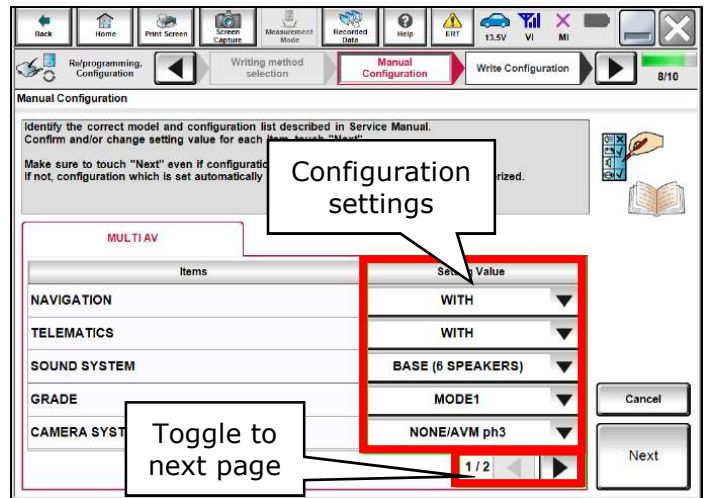

Figure 34
38. Use the drop down menus to select the configuration settings that were documented in Step 14 on page 5. (Figure 34)
The selections shown in Figures 34 and 35 may not reflect the features of your vehicle.